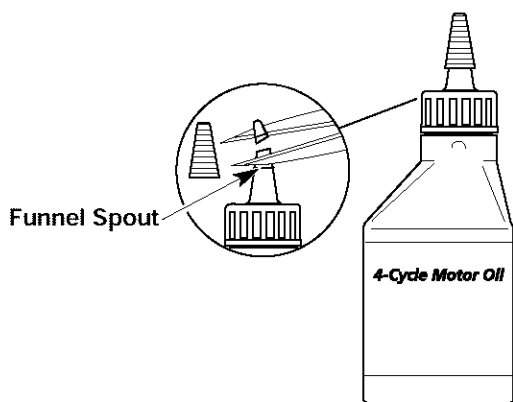

Fig. 7
Your unit is supplied with one 3.4 fluid oz. (100 ml.) bottle of SAE 30 SF, SG, SH oil (Fig. 7).
1. Unscrew the top of the bottle of oil and remove the paper seal covering the opening. Replace the top. Next, cut the tip off the funnel spout (Fig. 7).